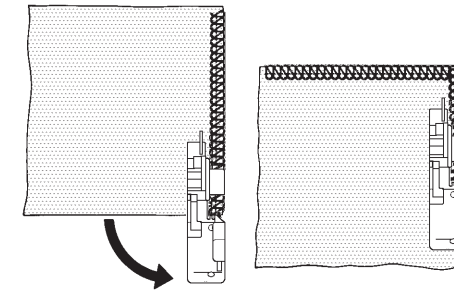

Fig. 1
3. Turn the fabric, lower the presser foot and begin stitching in the new direction. Fig. 1.